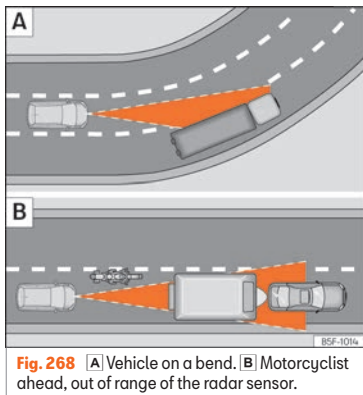

Fig. 268 **A** Vehicle on a bend. **B** Motorcyclist ahead, out of range of the radar sensor.
When entering or leaving some curves, the radar sensor may cease to sense the vehicle driving in front of it, or react to a vehicle in the adjacent lane » » Fig. 268 **A**. The vehicle may brake unnecessarily or stop reacting to the vehicle in front. In this case, the driver has to intervene by accelerating or interrupting braking by applying the brake or pushing the third lever to position **CANCEL** » » Fig. 265 ③.
»» Fig. 268 [B]. In these cases, you should brake as necessary.